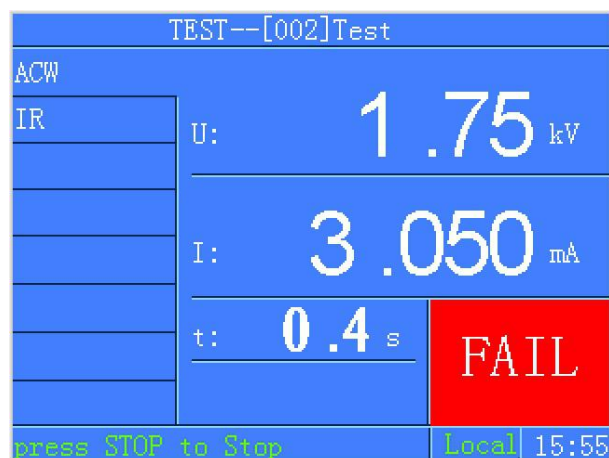

Figure 4-6-4 Test failed
3) Test failed or is abnormal, as shown in Figure 4-6-4, 4-6-5.